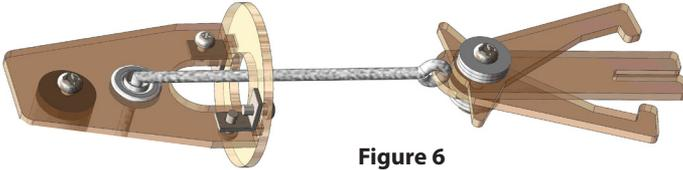

Figure 6
1. Tie one end of the twine to the top of the Chute Grip (Figure 6). **Hint:** To keep the ends of the twine from unraveling, briefly subject them to open flame.